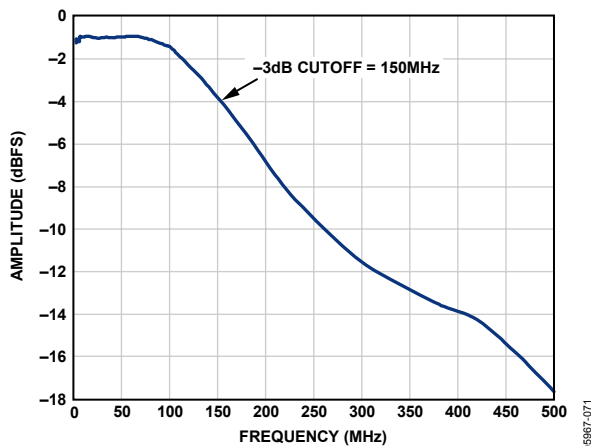

Figure 66. Evaluation Board Full Power Bandwidth, AD9222-50
- **AIN:** The evaluation board is set up for a transformer-coupled analog input with optimum 50 Ω impedance matching out to 150 MHz (see Figure 66). For more bandwidth response, the differential capacitor across the analog inputs can be changed or removed. The common mode of the analog inputs is developed from the center tap of the transformer or AVDD_DUT/2.